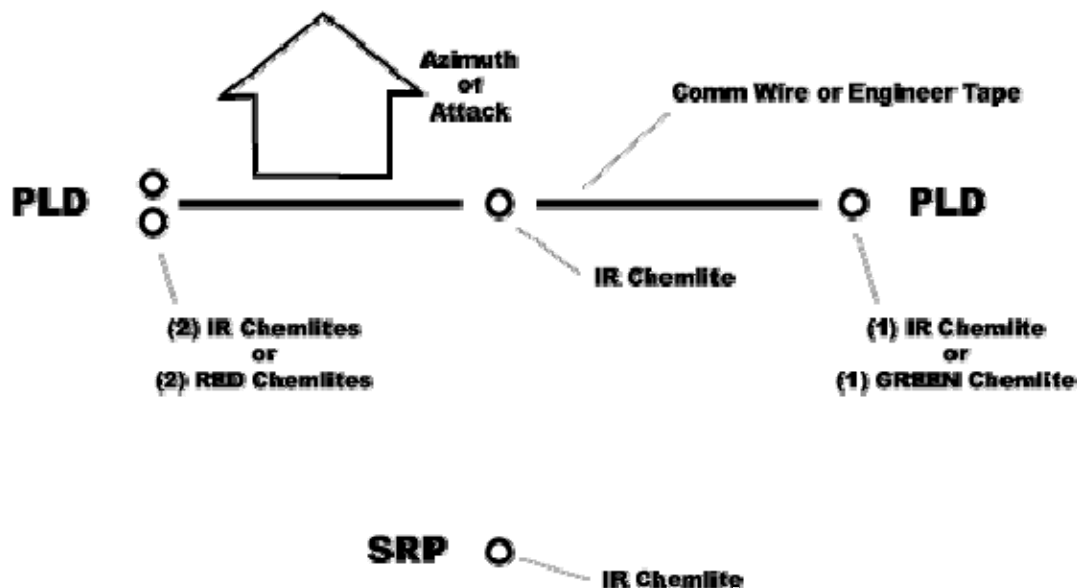

Figure 1. Platoon PLD 'T.'
1. Platoon PLD guides install each Platoon's PLD 'T.' See Figure 1.
- The CoGySgt maintains (3) PLD kits. Each kit contains a 10-meter length of engineer tape for route marking, (5) IR chemlites, (1) red chemlite, (2) green chemlites, electrician's tape, (2) 30-meter lengths of comm wire or engineer tape, and (5) large nails.